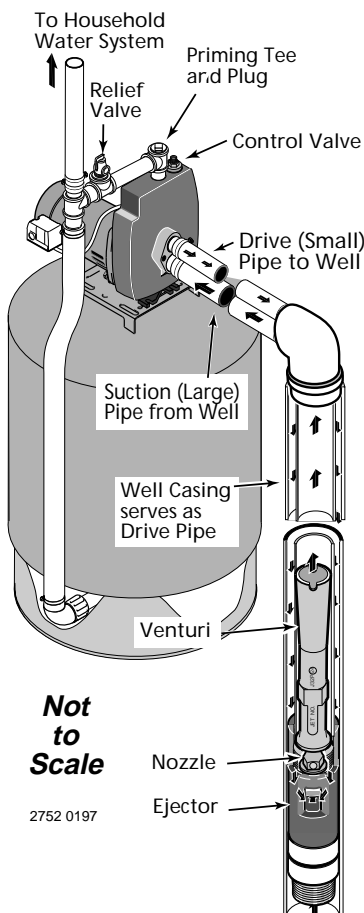

Figure 9: 2" (Single Pipe) Deep Well
2" WELL (Figure 9)
- Step 2. Assemble ejector kit (models with "J" suffix include complete ejector assembly; for other models, purchase ejector kit FP4855, sold separately), well piping, and well head adapter according to the instructions provided with the ejector package. See Figure 9. Use galvanized drop pipe with turned couplings to allow proper flow. Follow the instructions included with the kit in order to match the nozzle and venturi to your well conditions.